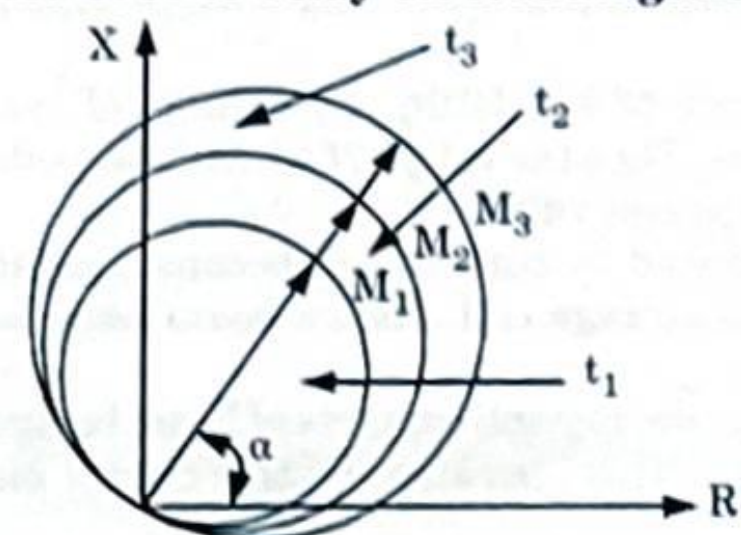

Fig. 2.20.2. Characteristics of MHO relay.
- The characteristics of Mho relay is shown in Fig. 2.20.2.